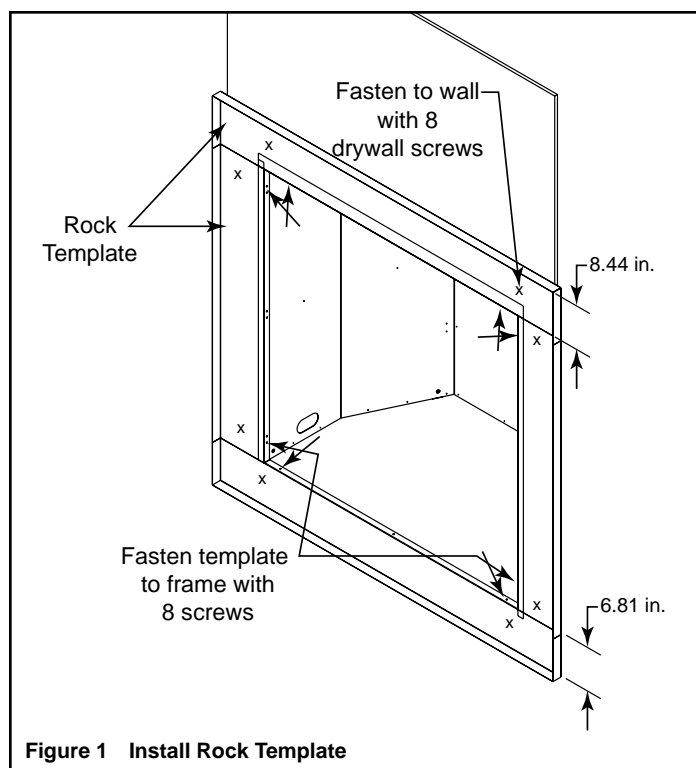

Figure 1 Install Rock Template
- Secure template piece to the front frame of appliance. See Figure 1.